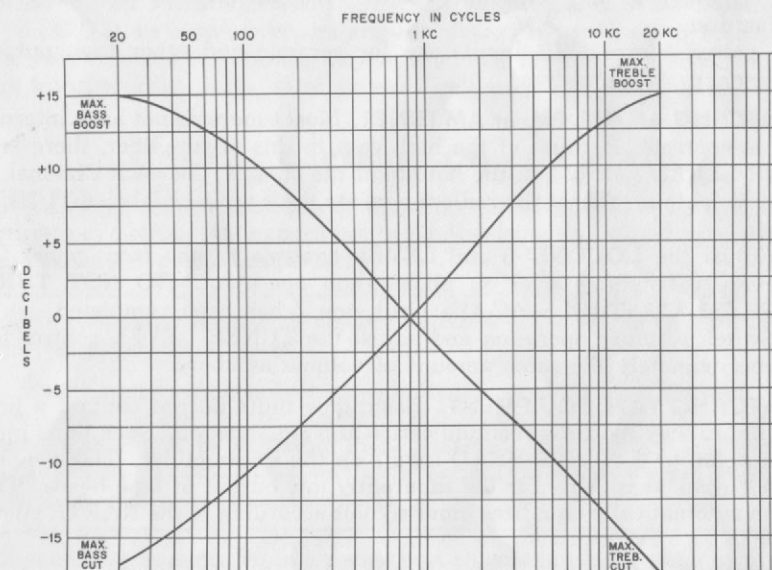

FIGURE 15. TONE CONTROL CURVES FOR EACH CHANNEL
**BASS and TREBLE CONTROLS.** Separate BASS and TREBLE dual concentric controls are used when additional compensation is desired. They can be adjusted independently for each channel. To adjust Channel A, hold the smaller knob firmly with one hand and, with the other hand, turn the larger knob (Channel A) as desired. To adjust Channel B, hold the larger knob firmly and turn the smaller knob (Channel B) as desired. When you have a satisfactory balance between channels, the clutch-type construction of the controls will hold both inner and outer knobs in the desired relative position. You may then change the bass (or treble) in equal amounts, on both channels at the same time, with one hand. Rotation of the controls to the left of center cuts the response; rotation to the right boosts the response. Figure 15 shows the Tone Control Curves for each channel.